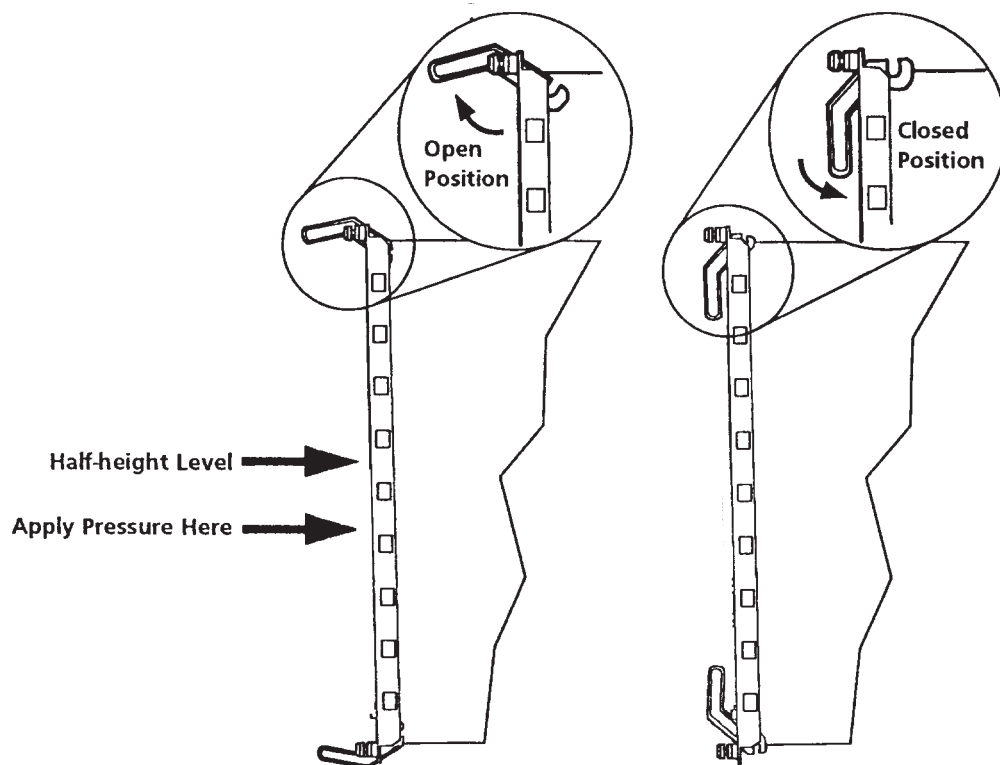

Figure 10. 8285 Module Ejectors
3. Insert the A2-WAN module into the slot in the expansion unit as shown in Figure 9, matching the left and right board guides as you slide the module cleanly into place (by pressing evenly on the top and bottom of the faceplate). Do not attempt to push the module all the way in until you have verified that the left and right module ejectors are OPEN (see Figure 10 on page 36.)